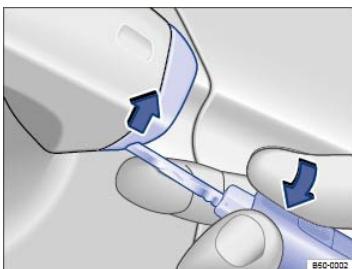

Fig. 180 Door handle on driver door: Removing the lock cylinder cover (if applicable).
- If the vehicle has a concealed lock cylinder, insert the key bit from below into the opening of the cover cap on the driver door ⇒ Fig. 180 (arrow) and lift the cover cap off. Grasping the door handle and pulling slightly makes it easier to remove the cap.